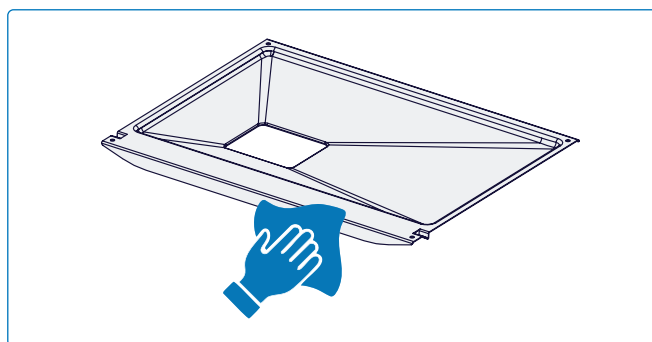

Fig. 24
2. Slide out the grease tray to access the disposable tray liner for cleaning (**Fig 24**).